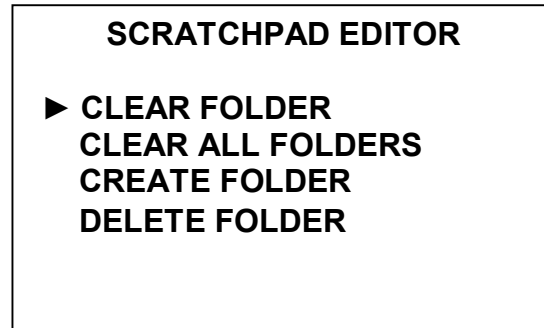

Fig. 1.23
► **SCRATCHPAD EDITOR** is the display shown in Fig. 1.23.